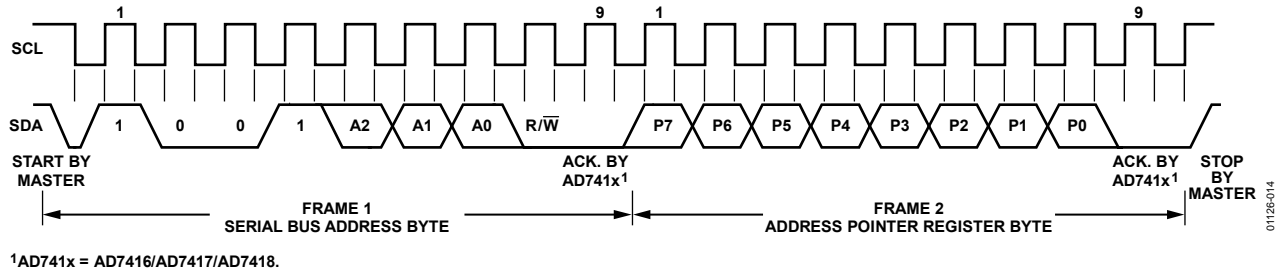

Figure 15. Writing to the Address Pointer Register to Select a Data Register for a Subsequent Read Operation
- Writing to the address pointer register for a subsequent read. To read data from a particular register, the address pointer register must contain the address of that register. If it does not, the correct address must be written to the address pointer register by performing a single-byte write operation, as shown in Figure 15. The write operation consists of the serial bus address followed by the address pointer byte. No data is written to any of the data registers.